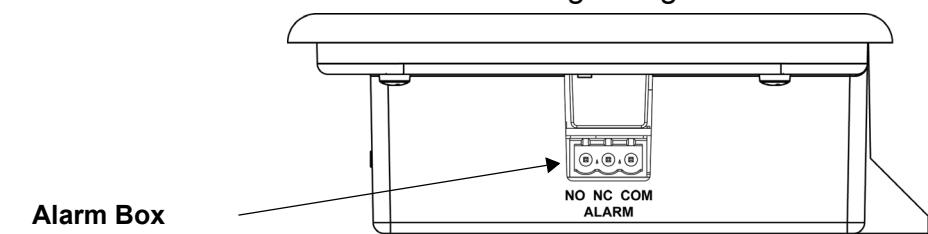

Figure 2
The Alarm Box is wall mounted. An included 24 VAC plug in transformer (see Table 1 on page 1) provides power for the Alarm Box. 24 VAC wiring connects between the Alarm Box and the terminal strip along the right edge of the iCOMM™ system's CM (communication module). The Alarm Box can be installed near the CM or in a different location for remote monitoring. Keep in mind the Display Button on the CM must be pressed to silence the alarm when considering a remote location - see Figure 2.
- 1 Choose an indoor location with adequate wall space to mount the Alarm Box. The Alarm Box can be installed near the CM (communication module) or in a remote location. When choosing a remote location keep in mind the Display Button on the CM (Figure 2 on page 2) must be pressed to silence the alarm when activated.